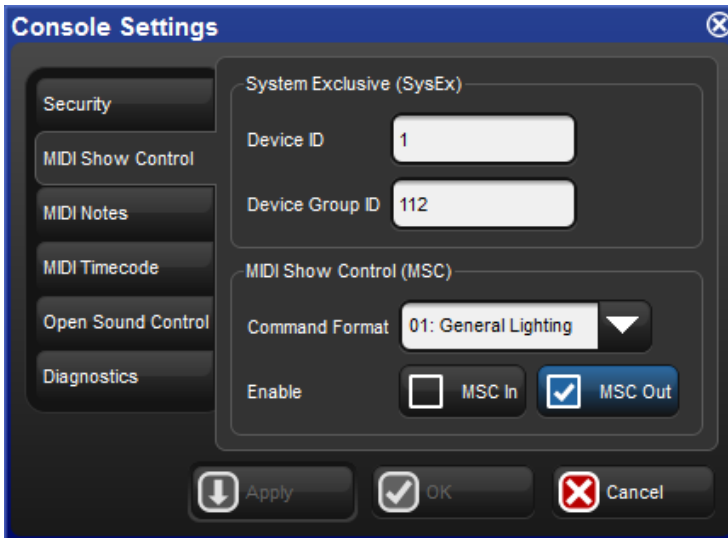

Figure 20.1. The MIDI pane of the Console Settings window
5. Settings : open the Settings window; see *Figure 20.1, “The MIDI pane of the Console Settings window”*.